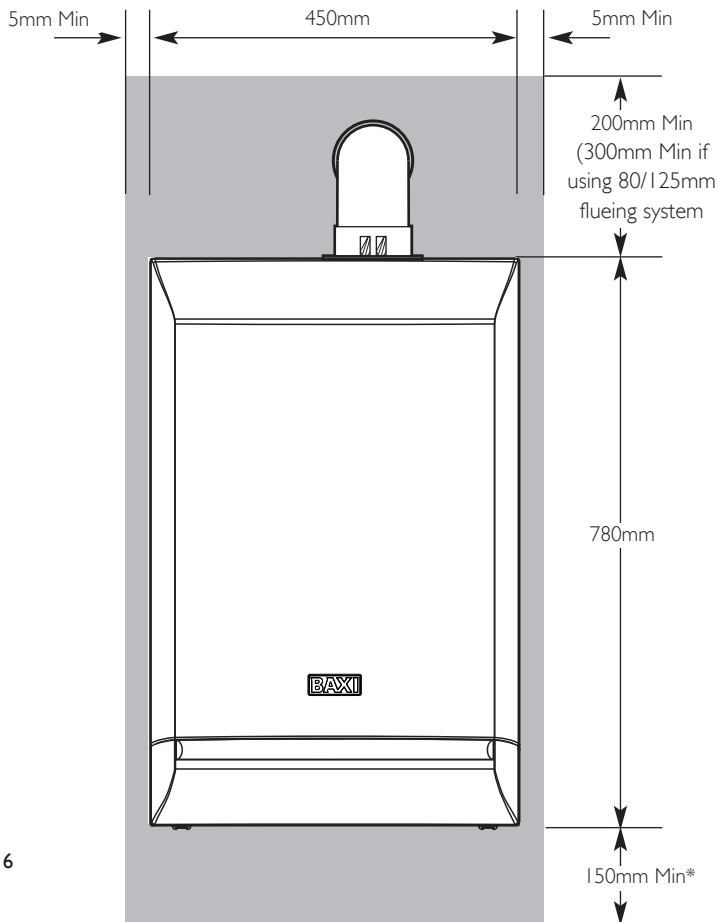

Fig. 6
6. Your boiler should have the following minimum clearances for Safety and Maintenance (Figs. 6 & 7):-